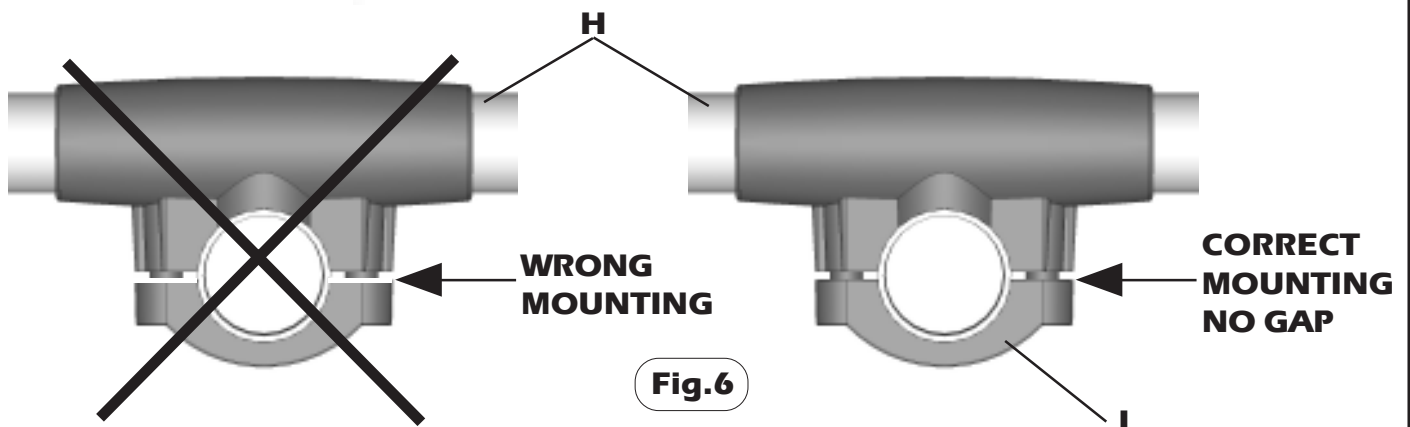

Fig.6
- 3) Fix the antenna's dipole **H** by using the plastic fixing clamp **I** and the screws **J**. Lock the screws to well fix the plastic parts to avoid any gap (see **Fig.6**)